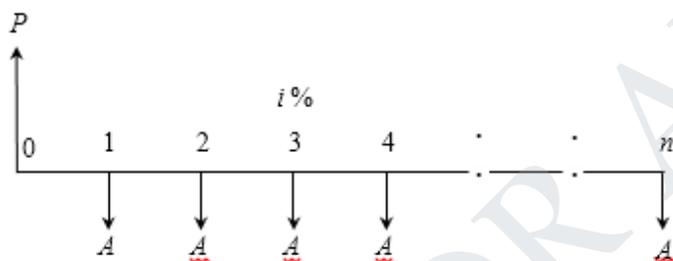

Fig. 3.8 Cash flow diagram of equal-payment series present worth amount.
10. What is annual equivalent method of comparing alternatives? (May 2008). The objective of this mode of investment is to find the present worth of an equal payment made at the end of every interest period for n interest periods at an interest rate of i compounded at the end of every interest period. The corresponding cash flow diagram is shown in Fig. 3.8. Here,